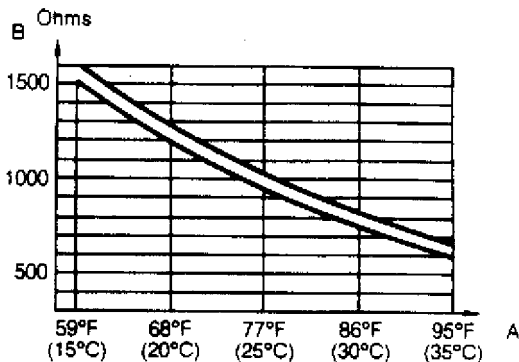

Fig. 13: Outside Temperature Sensor Graph
2) Check wire from control head terminal 5 to outside temperature sensor for open or short circuit. If okay, check ground wire from outside temperature sensor for open circuit. If okay, check resistance of outside temperature sensor. If resistance is okay, replace control head. If resistance is not okay, replace sensor. See Fig. 13.